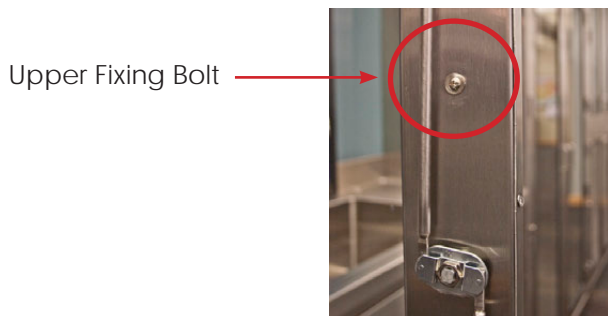

Fig. 31: Upper Fixing Bolt
Fit new Batteries by opening the door and removing the Upper Fixing Bolt. Swing the Lock down over the edge of the door. Refit the Lock when done (Figs. 31 and 32)
- 4) Fit new batteries by removing the upper fixing bolt and swinging the lock down over the edge of the door. Refit the lock when done (Figs. 31 and 32).
- 1) Remove the upper fixing bolt and swing the lock over the edge of the door to reveal the battery compartment (Figs. 31 and 32).